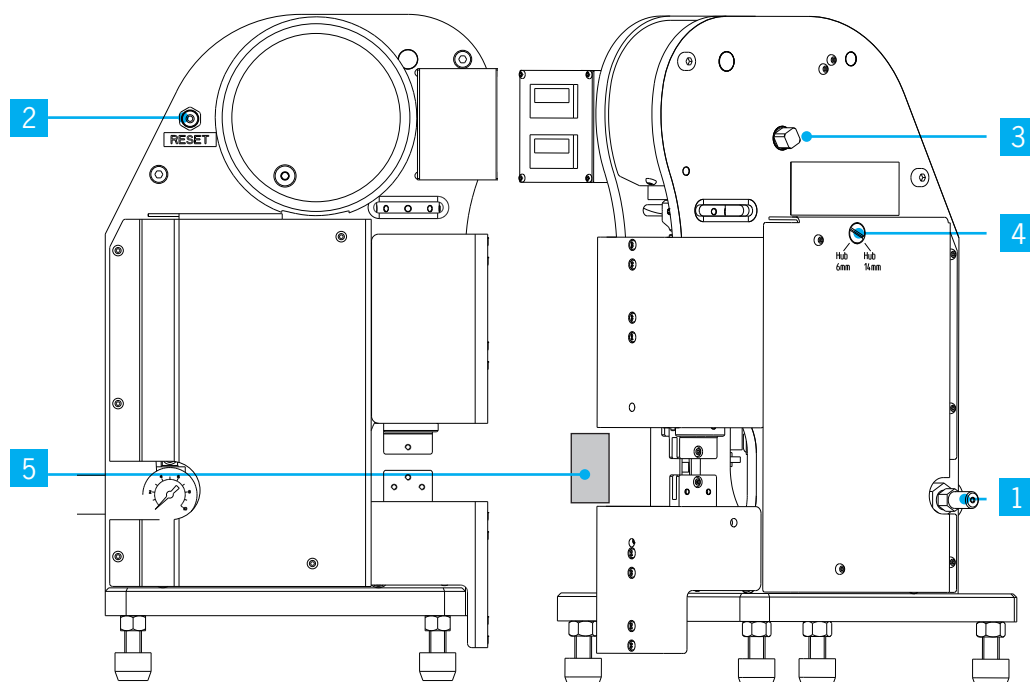

Fig. 3
- The selected working stroke can be recognized by the position of the swivel shaft Fig. 3/4 and the distance between the upper and lower die set
- Close the shut-off valve Fig.3/1, disconnect the air supply, then open the shut-off valve
- Release the remaining air by activating the reset switch Fig.3/2, the safety cover will close automatically
- Use a wrench (SW 12) and place it onto the square counter bearing Fig.3/3 and counterclockwise until the crimping dies close (without air pressure)
- Use a screwdriver to push the swiveling shaft against the pressure of the spring and swing it up to the labeled stop Fig.3/4
- Place adjustment aid Fig. 3/5 (included) between the upper and lower safety covers to prevent that the safety covers move together when the machine has no air pressure
- Use a wrench SW 12 and place it onto the square counter bearing Fig. 3/3 turn counterclockwise (in the direction of the red arrows) till the crimping dies are closed (without air pressure)
- Turn the wrench on the square counter bearing Fig. 3/3 to move the upper and lower die set together to ensure the proper fit of the dies
- Remove the wrench from the square counter bearing Fig. 3/3
- Remove adjustment aid Fig. 3/5 between the safety covers; the safety cover will close automatically
- Close the shut-off valve, connect the air pressure supply line, open shut-off valve Fig.3/1
- Place adjustment aid Fig.3/5 (included) between the upper and lower safety covers to prevent that the safety covers move together when the machine has no air pressure
- Release the remaining air by using the RESET switch Fig.3/2
- Inspect the correct fit of the crimping dies by lining up the top to the bottom and by closing the die set; turn the square counter bearing (in the direction of the arrows) Fig.3/3 with a wrench SW 12 until upper and lower die set touch each other
- Remove the adjustment aid Fig.3/5
- Place the adjusting aid Fig.3/5 between the upper and lower safety cover to prevent that the safety covers move together when the machine has no air pressure
- Remove the Allen wrench and the adjustment aid Fig.3/5